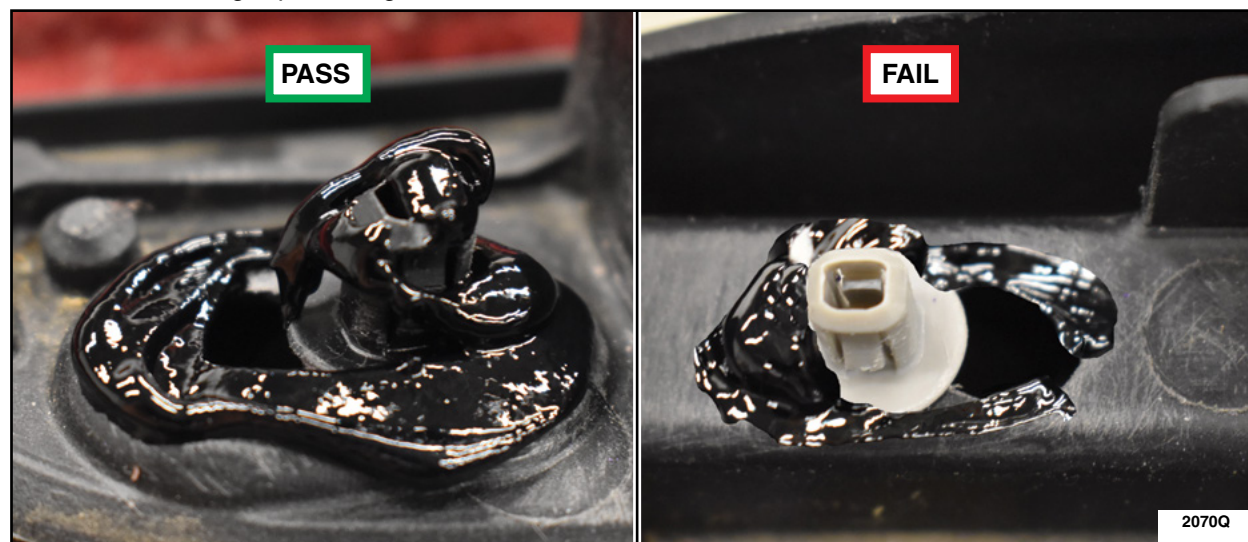

FIGURE 18
4. Starting from the rear of the vehicle, apply the adhesive around the roof rail contact pad, around and over the retaining clip. See Figure 18.